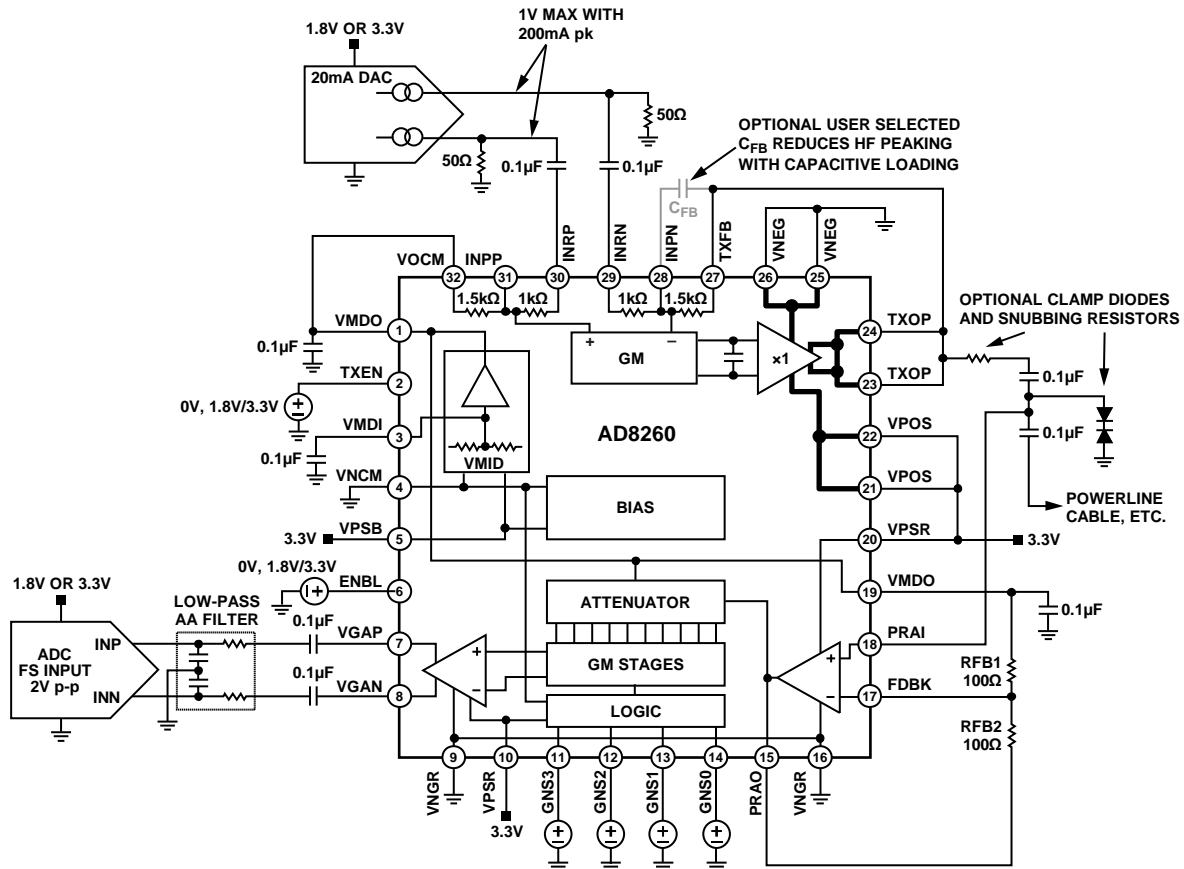

Figure 64. Block Diagram and Basic Application Connections
The AD8260 is a self-contained transceiver intended for analog communications using a power line as the media. Operating on supplies as low as 3.3 V, it includes a high current driver usable as a transmitter and a low noise digitally programmable variable gain amplifier (DGA), usable as a receiver (see Figure 64). An uncommitted current-feedback high frequency op amp acts as a preamplifier and interface to the DGA and is user configured for gains greater than 6 dB. Combined, the VGA and preamplifier are usable at high signal levels from dc to 100 MHz, with a small-signal -3 dB bandwidth of 230 MHz. To implement a high current-output VGA, the VGA output can be connected to the driver-amplifier differential input.
4-bit parallel interface. Figure 64 shows the circuit block diagram and basic application connections, and illustrates the envisioned external DAC, ADC, and power-line bus interface connections. The diagram shows the connections for single 3.3 V supply operation; if a dual supply is available, the VMID generator can be shut down and Pin VMDI, Pin VMDO, and Pin VOVM need to be grounded. Note that Pin VNOCM functions as the negative supply for the bias and VMID cells, plus the logic interfaces, and should always be tied to ground.
For optimal dynamic range, it is important that the inputs and outputs to both the driver amplifier and the preamplifier and the DGA output amplifier be ac-coupled in a single-supply application. In Figure 64, the DAC and ADC are presumed to operate on a 1.8 V or 3.3 V supply with a corresponding limited output and input swing. The DAC outputs are currents that point down and generate a voltage in the $50\ \Omega$ resistors that are connected to ground. The maximum voltage with a peak DAC output current of 15 mA is 0.75 V; if a DAC with a 20 mA peak current is used, then the maximum voltage is 1 V per side for a differential input signal of 2 V p-p.
The high current driver amplifier can deliver very large output currents suitable for driving complex impedances, such as a power line, a $50\ \Omega$ line, or a coaxial cable. The input of the amplifier is fully differential and intended to be driven by a differential current-output DAC, as shown in Figure 64. The differential input signal is amplified by $1.5\times$ and produces a $2.25\ \text{V p-p}$ single-ended output signal from a $1.5\ \text{V p-p}$ input signal. A DAC with $15\ \text{mA}$ maximum output current into a $50\ \Omega$ load provides $1.5\ \text{V p-p}$ of input voltage and results in $2.25\ \text{V p-p}$ at the output. A DAC whose output is $20\ \text{mA}$ produces an output swing of $3\ \text{V p-p}$ (neglecting a small gain error when driving the parallel combination of the $50\ \Omega$ load-resistor and the internal $1\ \text{k}\Omega$ gain resistor of the AD8260).
During receive, when the high current driver-amplifier is disabled, its gain setting resistors provide a signal path from input to output. To prevent inadvertent DAC signals from being transmitted while receiving via the preamplifier and DGA, the DAC in Figure 64 must have no output signal.
The VMID buffer is a dc bias source that generates the voltage on Pin 1 and Pin 19, VMDO. Node VMDO cannot accommodate large dynamic currents and requires excellent ac decoupling to ground. A high quality 0.1μF capacitor located as close as possible to Pin 1 and Pin 19 (see Figure 64) is normally sufficient to decouple the high values of current from Node VMDO.
Referring to Figure 64, the signal path consists of a 30 dB programmable attenuator followed by a fixed gain amplifier of 18 dB for a total DGA gain range of -12 dB to $+18 \text{ dB}$. With the preamplifier configured for a gain of 6 dB, the composite gain range is -6 dB to $+24 \text{ dB}$ from single-ended preamplifier input to differential DGA output.
- Use the internal VMID buffer as shown in Figure 64.